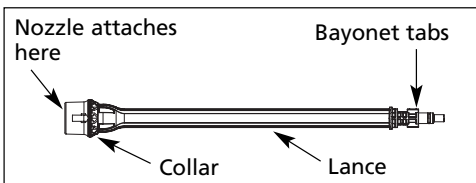

Figure 10
11. To exchange a quick connect nozzle engage the gun trigger lock in the safe position. Pull sliding collar on lance away from nozzle and remove nozzle from lance (refer to Figure 10).